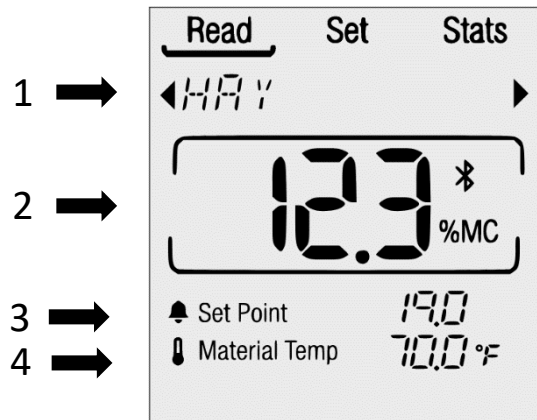

Figure 2: Read screen components
Info: The live reading area displays the corrected moisture value of the selected material, corrected for the Material Temperature (3). (see Figure 2 above).